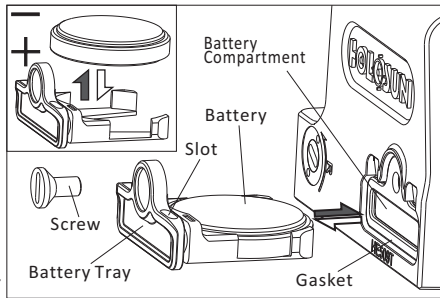

Fig 4
3. Battery replacement(Fig 4):